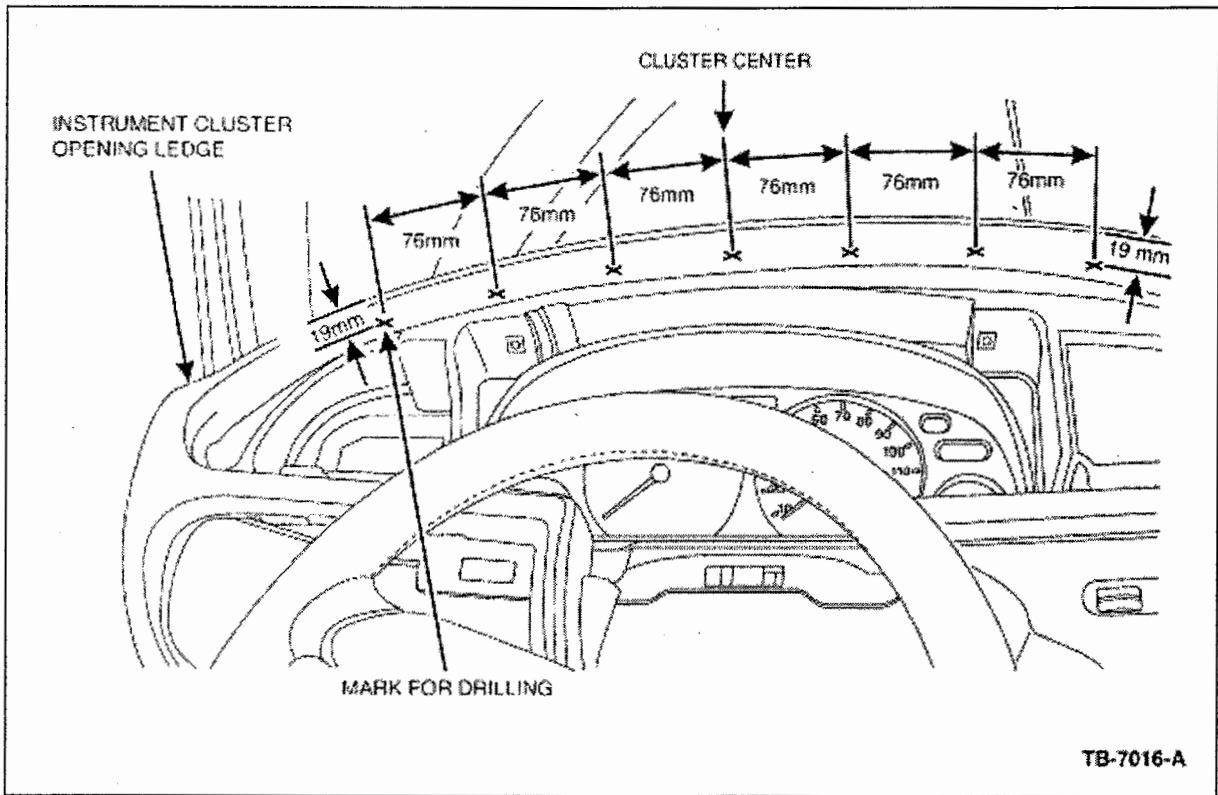

Figure 15 - Article 03-4-6
35. From below the instrument cluster opening ledge of the I/P, measure out and place seven (7) marks to indicate where the rivet holes will be drilled. Place the first mark directly above the exact center of the cluster. From this point, measure 76 mm (3 in.) out on both sides to locate the remaining holes (Figure 15).